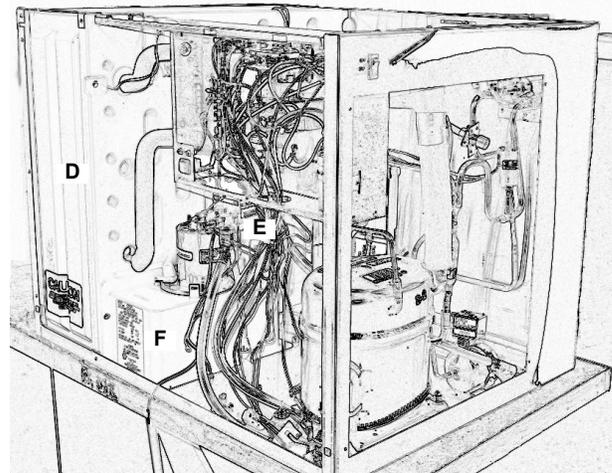

Figure 8.
3. Remove the evaporator splash panel (D) and control box cover (E) (Figure 8).
The refrigerant type and charge are indicated on the serial plate, located on the water pan (F) (Figure 8). This charge amount does **NOT** include that which is normally present in a factory charged condenser or line set.